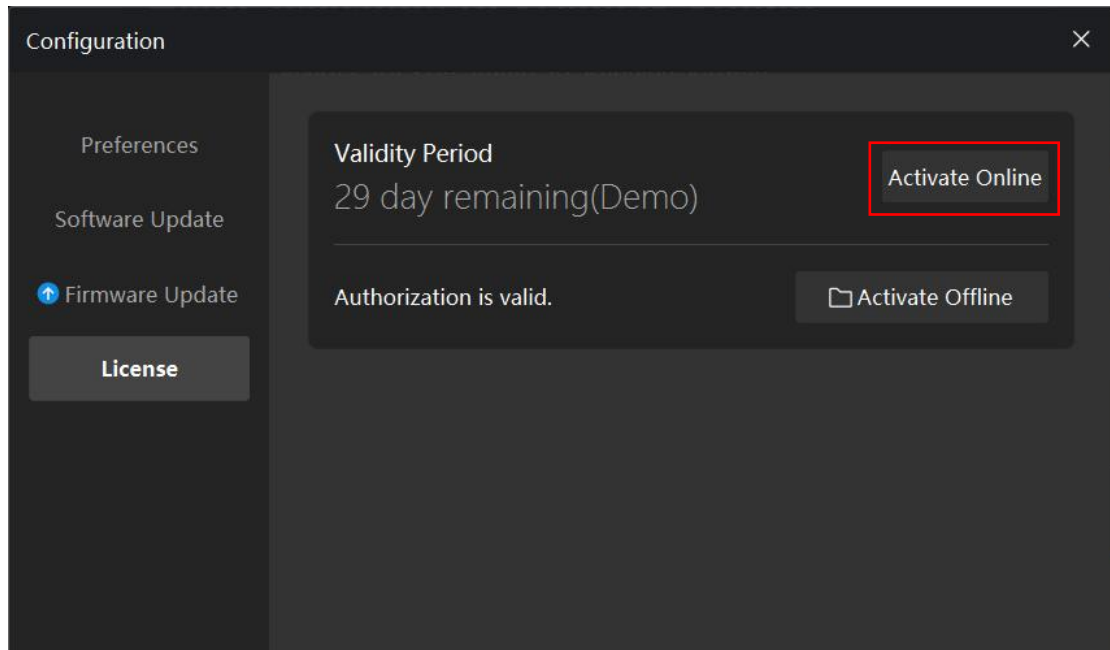

Figure 5-2 Online Activation Button
2. Click the "Activate Online" button in the configuration, as shown in Figure 5-2. The license file will be automatically downloaded.